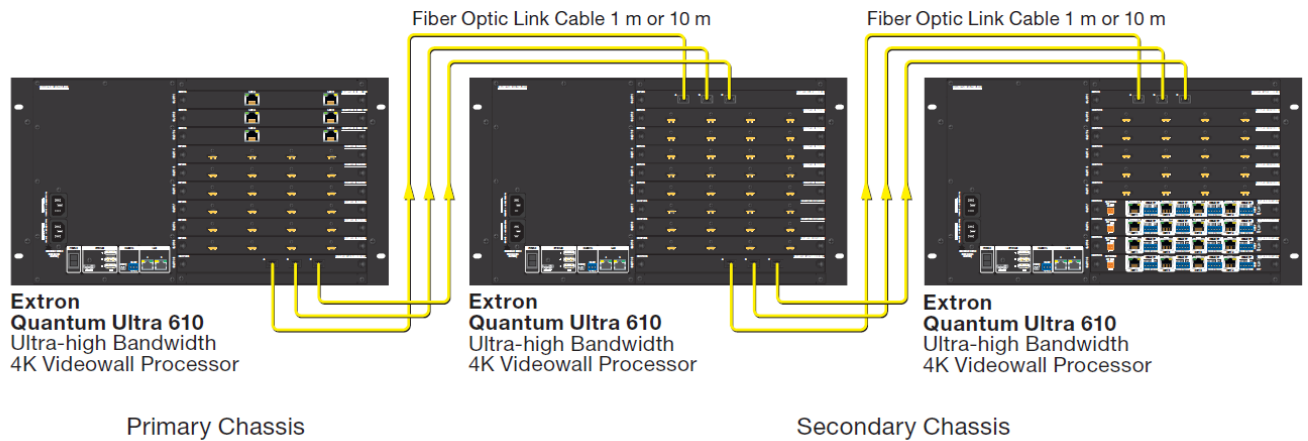

Figure 4. Expansion Card Connection
1. Connect three MPO cables between Expansion OUT card connectors A, B, and C of the primary chassis and Expansion IN card connectors A, B, and C of the first secondary chassis in the chain. Always connect output A to input A, output B to input B, and output C to input C (see figure 4 on page 5).
next chassis until all the desired chassis (up to five) are connected (figure 4).